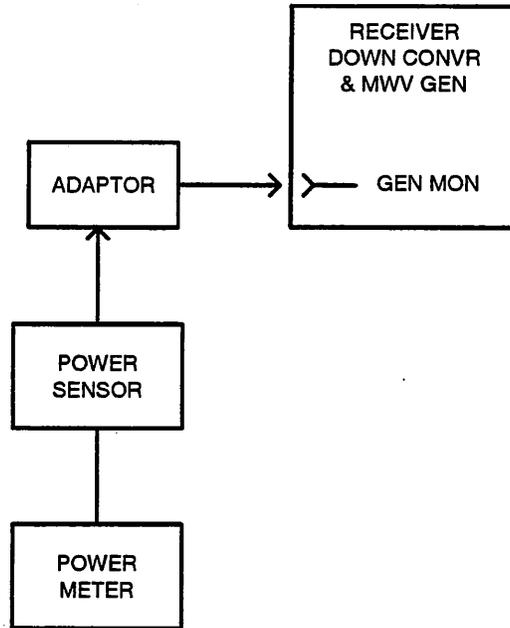

Figure 1-Microwave Generator Power Check
- Refer to Figure 1.
2. Condition the power meter to measure the expected RF power level (normally -14 to 0 dBm), and connect it to the GEN MON jack (Figure 1).